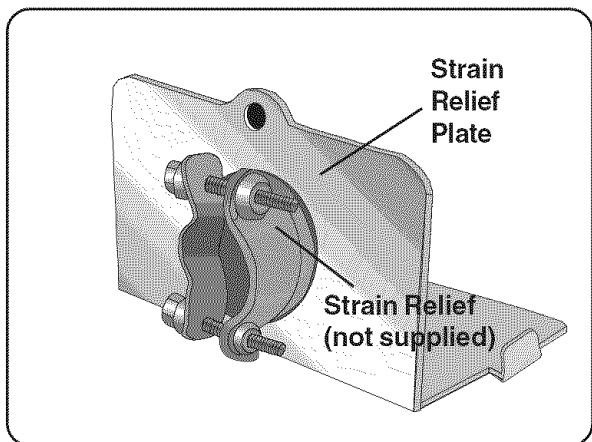

Figure 27
**NOTE:** Orient the strain relief as shown in **Figure 27**.